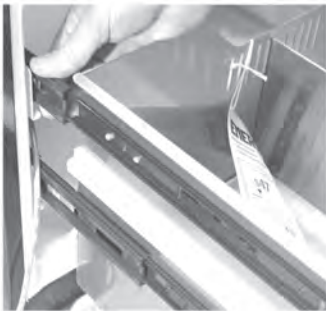

Figure 2
4. Repeat the process on the opposite side, see figure 2.